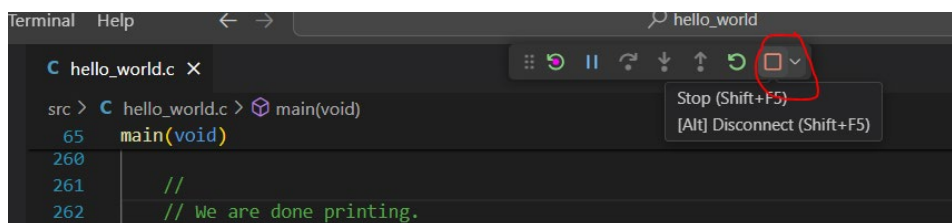

Figure 8 - Stop Button
- To exit the debugger mode, click on the stop button, as shown in Figure 8.